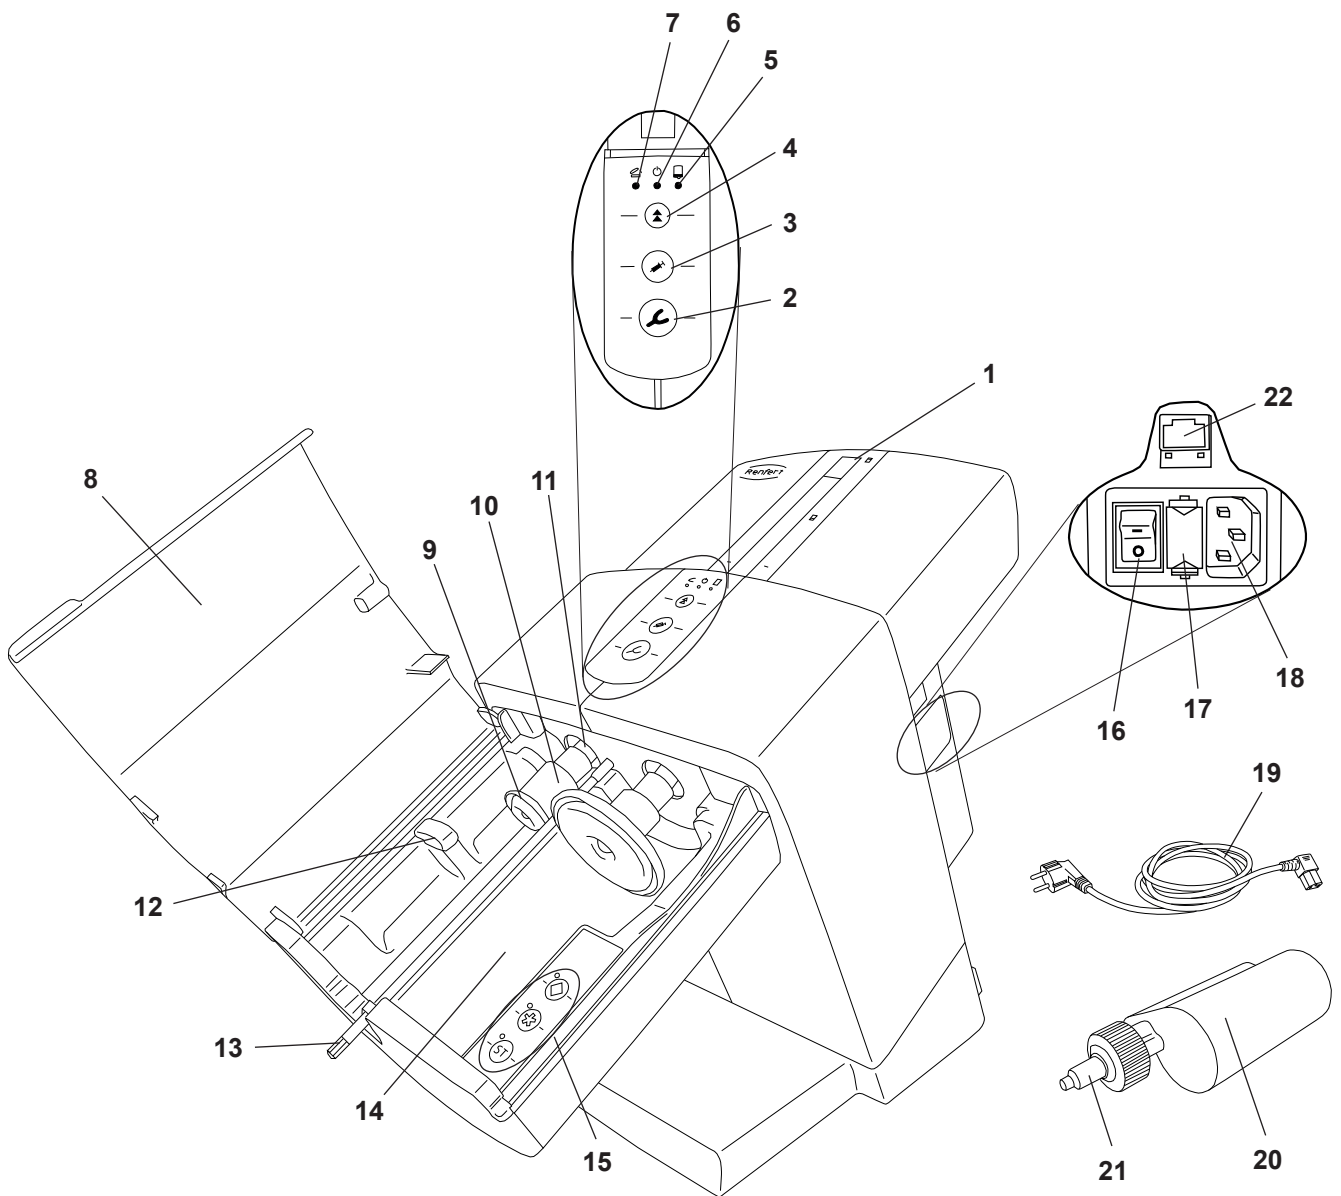

Fig. 1
- ⇒ Connect the provided power cord (19, Fig. 1) to the mains connection socket (18).
- ⇒ Switch the unit on at the mains power switch (16).
- ⇒ Close the unit cover (8, Fig. 1).
- ⇒ Press the retract key (4).
- ◆ The pressure discs (9, Fig. 1) retract to their home position where they stop.
- ⇒ Remove the shipping restraint (23).
A cartridge can only be installed or replaced if both pressure discs (9, Fig. 1) are in their home position.
⇒ Close the unit cover (8, Fig. 1).
⇒ Open the unit cover (8, Fig. 1).
The cover will only close if the cartridge has been properly installed. The red “Unit cover open” LED (7, Fig. 1) will remain on until the unit cover has been properly closed.